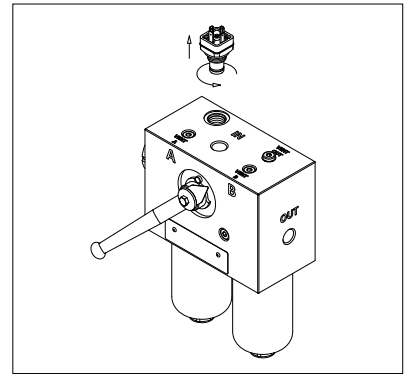

fig. 20
- (Fig. 20) Unscrew the indicator body